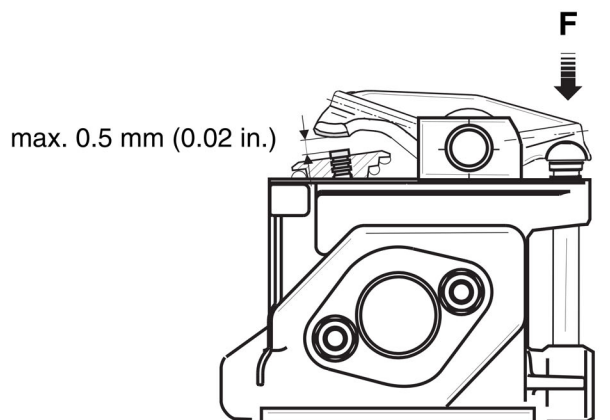
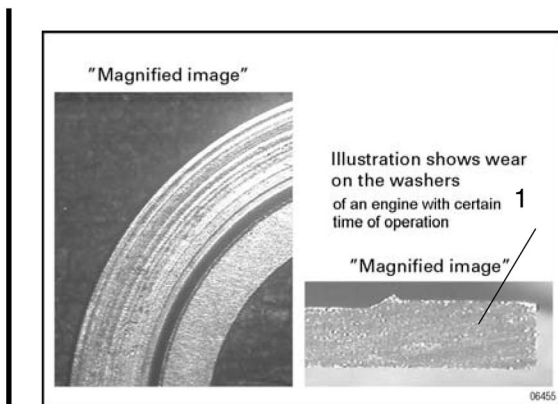

Fig. 5
Fig. 6
See Fig. 5 and Fig. 6.
1	Inspect valve spring support (1). Measure the wear referring to the reference surface (inner area of valve spring support) in radial direction (2) to outer side with a dial gauge. Value $t = \max. 0.04 \text{ mm (0.0016 in.)}$. See Fig. 6. An exceeding of $\max. 0.04 \text{ mm (0.0016 in.)}$ is not acceptable. NOTE: The valve spring support indicates a possible malfunction of valve train caused by incorrectly or insufficiently purged hydraulic valve tappets. At standard conditions no wear is visible even after a long time of operation. If the visual inspection shows some wear on the valve spring support surface, measure the actual wear with a dial gauge.